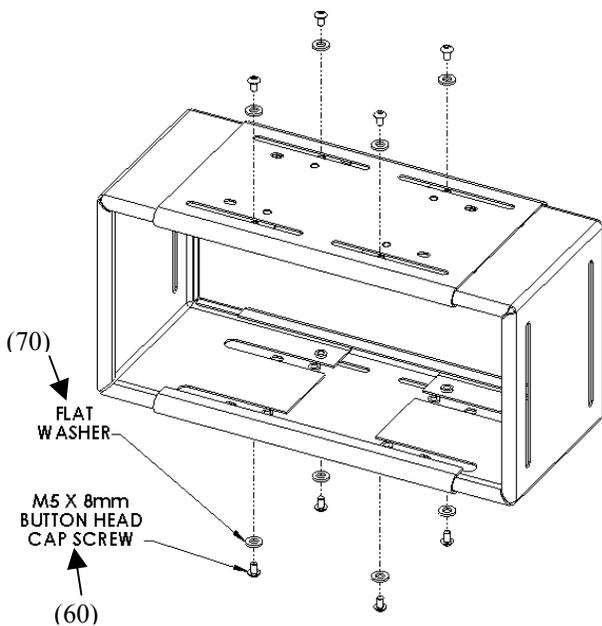

Figure 3. Attach Center Plates and Side Plates
1. On the top, install four flat washers (70) and four M5 X 8mm button head cap screws (60) into the threaded holes in the side plates (30). See Figure 3.